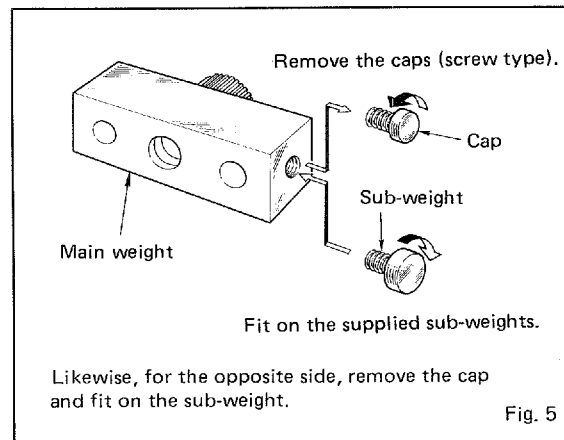

Fig. 5
- Cartridges in the weight range of over 11g up to 16g can be used by removing the left and right caps of the main weight as shown in Fig. 5 and fitting on the supplied sub-weights.